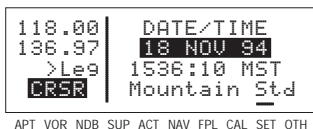

Figure 3-159
2. Turn on the cursor. The cursor will be over the entire date field (figure 3-159).